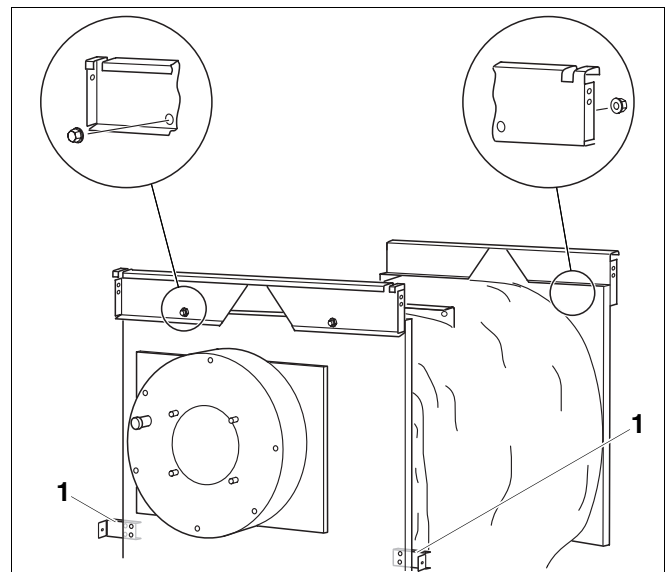

Fig. 9 Cross brackets
- Locate the front cross bracket (trapezoidal cut-out down) with its two top holes on the threaded studs and secure with nuts (Fig. 9).
- Locate the rear cross bracket (V-shaped cut-out down) with its two top holes on the threaded studs and secure with nuts (Fig. 9).
The edge of the cross bracket must point outwards (Fig. 9).
- Lightly secure the central cross bracket front (Fig. 9, **Item. 1**) on the left and the right side using two bolts and washers.
Initially secure the central cross bracket (Fig. 9, **Item. 1**) only lightly. Tighten the cross brackets after they have been aligned and secured to the side wall closest to the front.